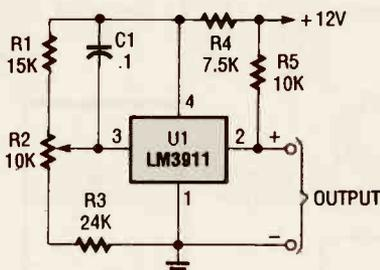

Fig. 3. The LM3911 requires only a few resistors and a capacitor to turn into a full-function temperature controller.
Once your Jacob's Ladder is up and running, a clear Plexiglas or acrylic cylinder around the entire unit will prevent the unthinkable from happening (see Fig. 3). The clear plastic housing should have vent holes at the top and bottom to allow heated gasses to escape, but not so large that the smallest child in the family can get his or her mitts or anything else inside. Generally, such cylinders can be purchased from most plastic-supply houses rather cheaply, and are well worth the added protection.
**FIG. 3—A PLASTIC SHIELD SHOULD BE USED to prevent inquisitive people from accidentally touching the arc or the electrodes. Be sure to include a vent hole at the top and bottom of the shield so that gasses produced by the arc are allowed to escape.**
Place the four dowel rods in the baseboard, position the 9-inch deck on top, and press down until all four dowel rods are even with the top of the circle. Connect the bottom of L1, using a short length of #12 wire, to the main grounding point (see Fig. 3). Also connect the bottom end of L2 to the same point.
**The Circuit.** The LM3911 requires very few external components to implement a full-function temperature controller. Figure 3 illustrates the simplicity of the Freeze Fighter circuit. The resistor network consisting of R1, R2, and R3 is used to provide the set-point voltage for the feedback input of the LM3911.